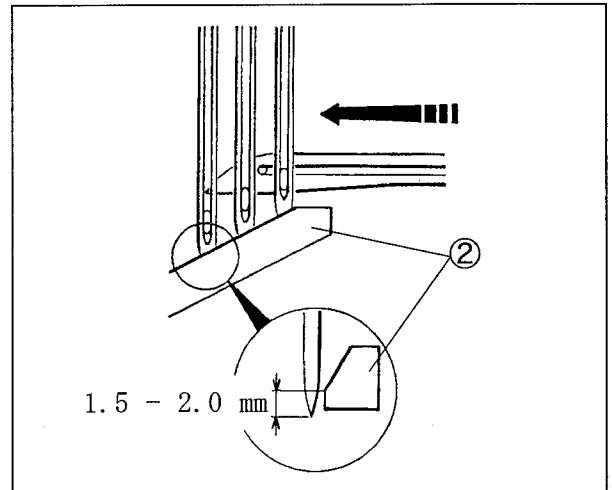

Fig. 6-25
- (1) Turn the handwheel clockwise until the looper tip comes to the center of the left needle. (Fig. 6-25)
- (2) Loosen the screw ①. Adjust the height from the needle tip to the angular part of the needle guard(front) ② to 1.5 - 2.0 mm. (Fig. 6-25, 6-26)